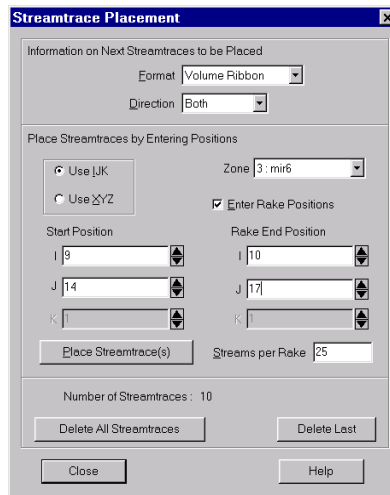

Figure 13-1. The Streamtrace Placement dialog.
1. From the Field menu, choose Streamtrace Placement. If you have not yet assigned vector components for the current frame mode, the Vector Variables dialog appears for you to assign them. Otherwise, the Streamtrace Placement dialog appears, as shown in Figure 13-1.
1. From the Field menu, choose Streamtrace Placement. If you have not yet assigned vector components for the 3D frame mode, the Vector Variables dialog appears for you to assign vector components. Otherwise, the Streamtrace Placement dialog appears, as shown in Figure 13-1.